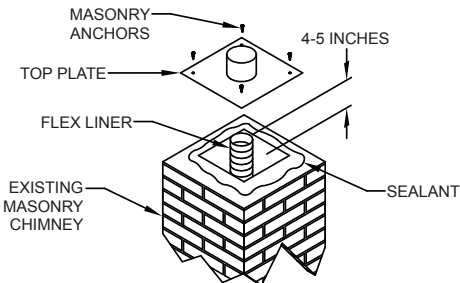

Figure 13
**Step 1.** When terminating your Flex installation, ensure the Flex protrudes 4-5 inches over the top of the masonry chimney (*Figure 13*). If necessary, trim the base of the Top Plate to fit the masonry chimney.
**Step 2.** Slide the Top Plate over the Flex and seal the Top Plate to the masonry chimney using a bead of non-hardening sealant around the top of the chimney to prevent moisture intrusion (*Figure 13*).